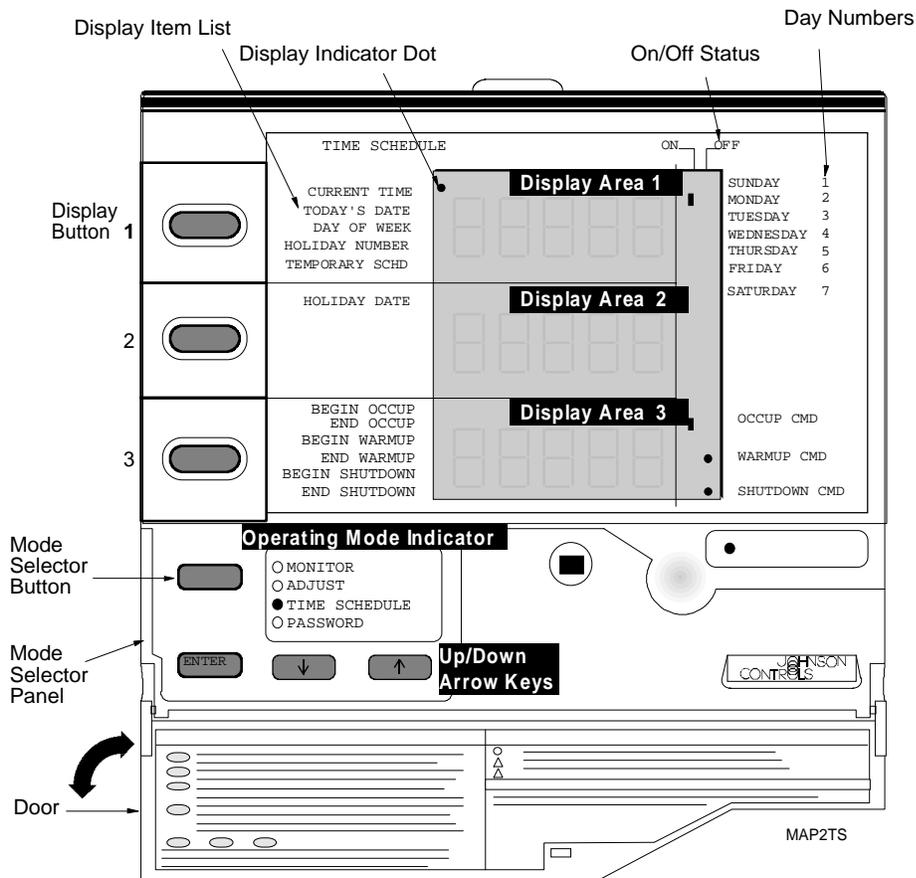

Figure 11: Zone Terminal with Time Scheduling Overlay
3. Press the Mode Selector Button until the green Mode Indicator Light moves next to the words Time Schedule. See Figure 11 showing the Time Schedule Overlay in place.